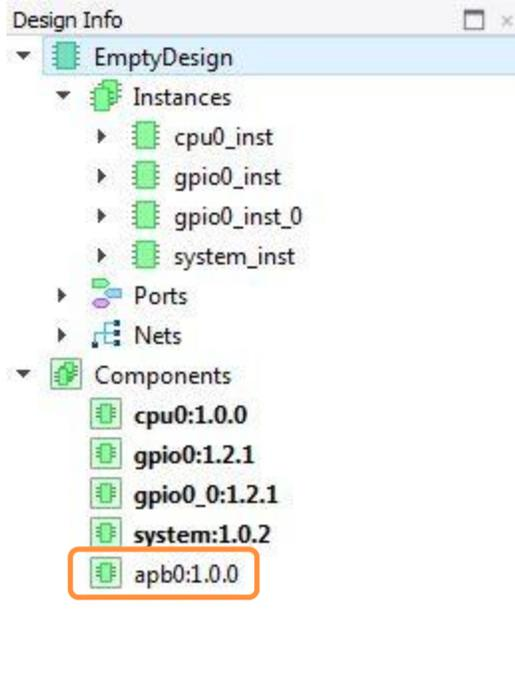

Figure 2.24. Design Info View
- In the list view of Design Info (Figure 2.24), go to the Components folder. The deleted module can still be found in the List view in plain text. Those that are not deleted are in bold-faced text.